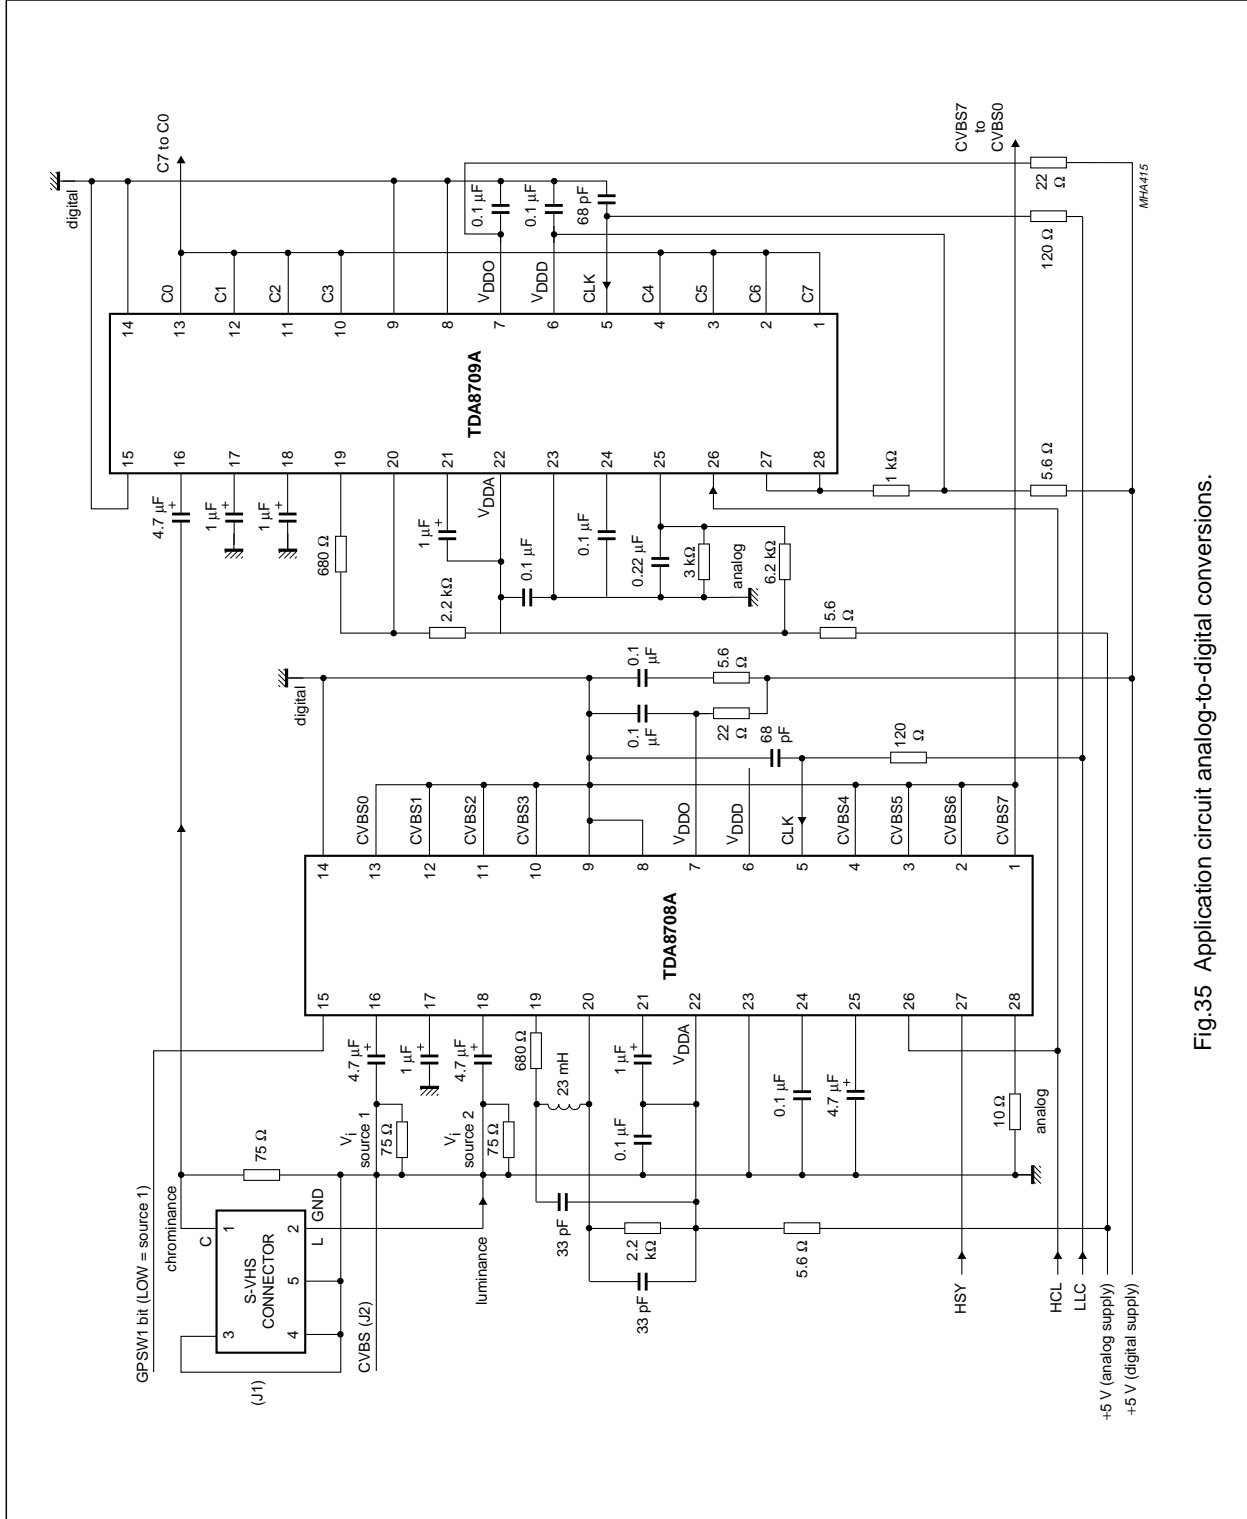

Fig.35 Application circuit analog-to-digital conversions.
Coefficients to set operation for application circuits Figs 35 and 36. Slave address byte is 40H at pin 5 connected to V_{SSD} (or 42H at pin 5 connected to V_{DD}).
- Dependent on application (Figs 35 and 36).